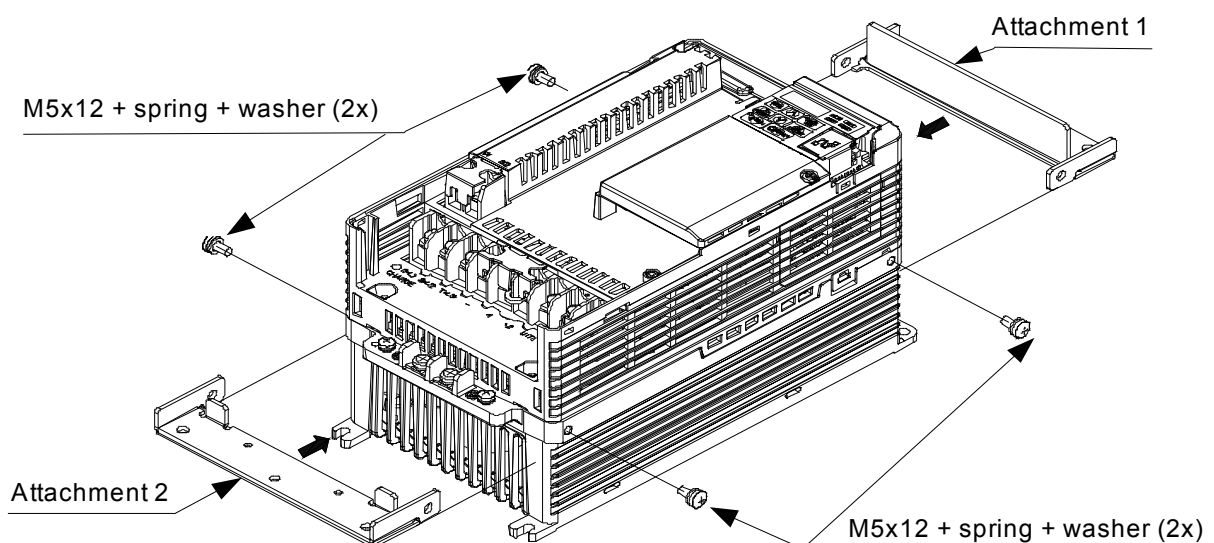

Figure 13: Installation - Step 3
3. Fix *Attachment 1* to the top of the inverter and *Attachment 2* to the bottom like shown in Figure 13. Use the prepared screw holes on the side of the device with M5x12 screws and spring and washer.